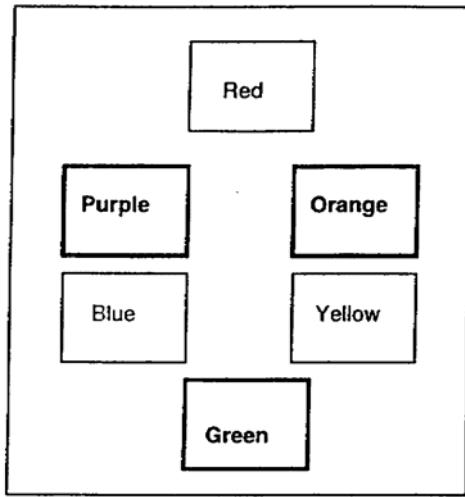

Figure 2-2. Secondary colors
(2) **Secondary colors.** Secondary colors (Figure 2-2, page 2-14) are made by mixing any two of the primary colors together. For instance, yellow and red form orange; red and blue form purple; and blue and yellow form green.